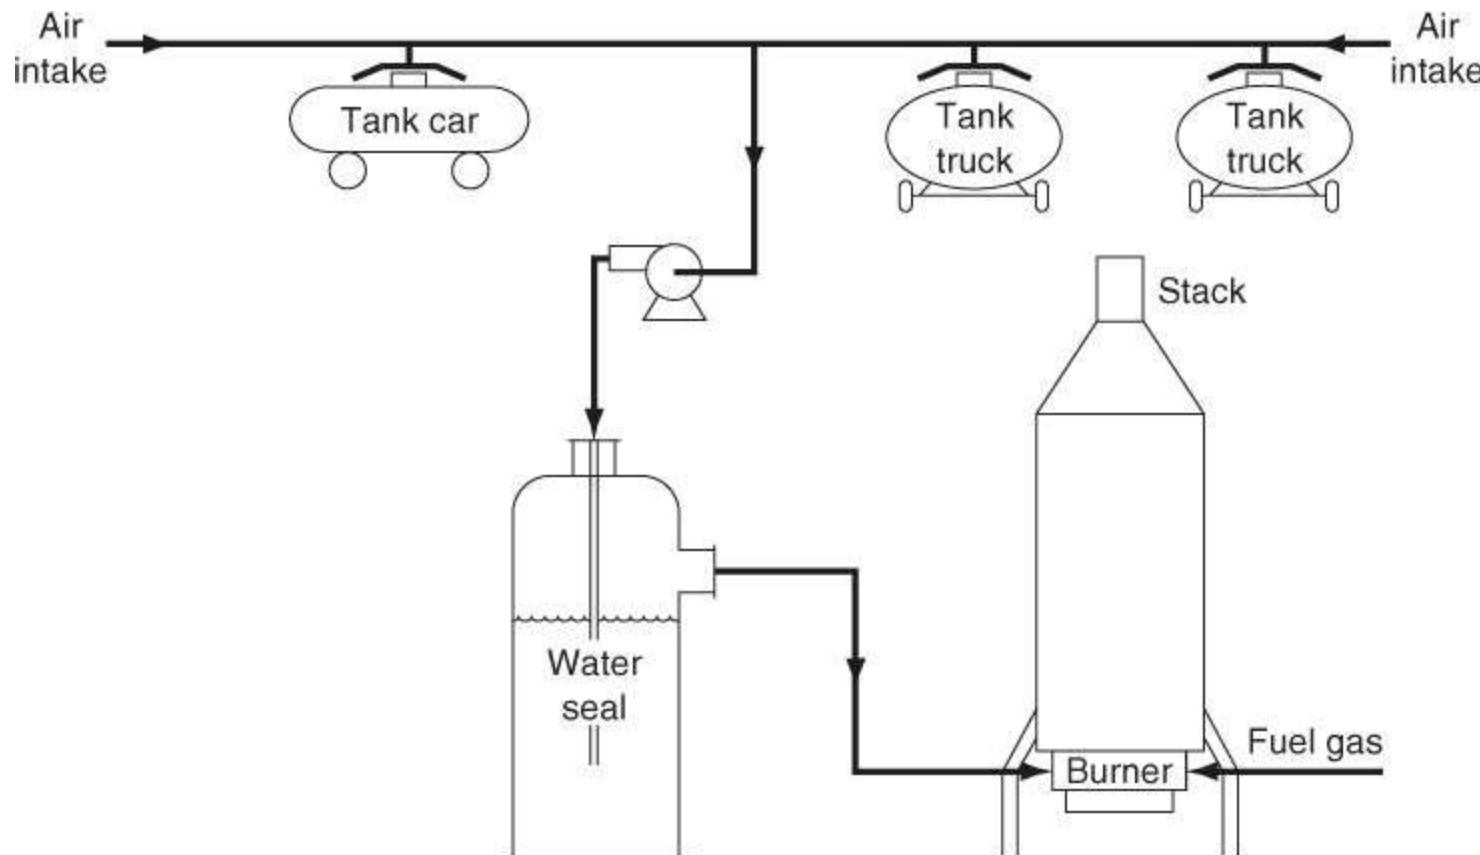

Figure P8.4.16
*****8.4.16.** Figure P8.4.16 shows a typical *n*-butane loading facility. To prevent explosions either (a) additional butane must be added to the intake lines (a case not shown) to raise the concentration of butane above the upper explosive limit (UEL) of 8.5% butane in air, or (b) air must be added (as shown in the figure) to keep the butane concentration below the lower explosive limit (LEL) of 1.9%. The *n*-butane gas leaving the water seal is at a concentration of 1.5%, and the exit gas is saturated with water (at 20°C). The pressure of the gas leaving the water seal is 120.0 kPa. How many cubic meters of air per minute at 20.0°C and 100.0 kPa must be drawn through the system by the burner if the joint leakage from a single tank car and two trucks is 300 cm^3/min at 20.0°C and 100.0 kPa?